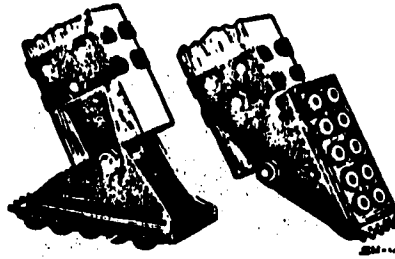

Fig 2-8. Ladder safety shoes.
- o Equip the ladder's side rails with safety shoes (see fig 2-8). This is especially necessary when you use the ladder on surfaces that would permit the ladder to slip.